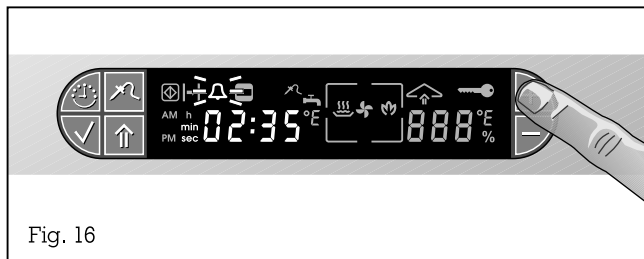

Fig. 16
- Press the + key. The short time symbol  $\Delta$  flashes (Fig. 16).